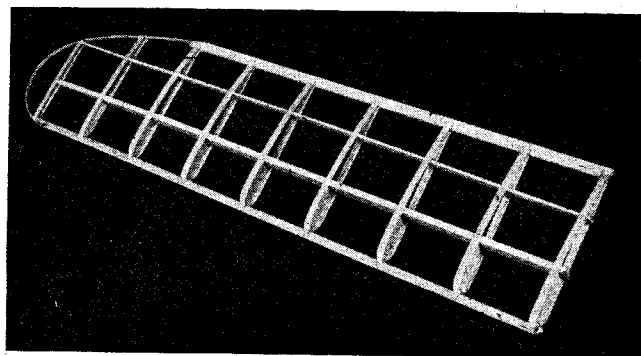
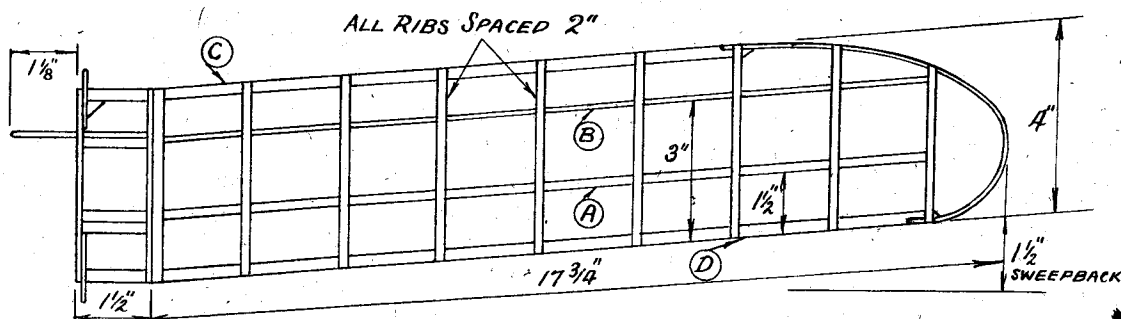
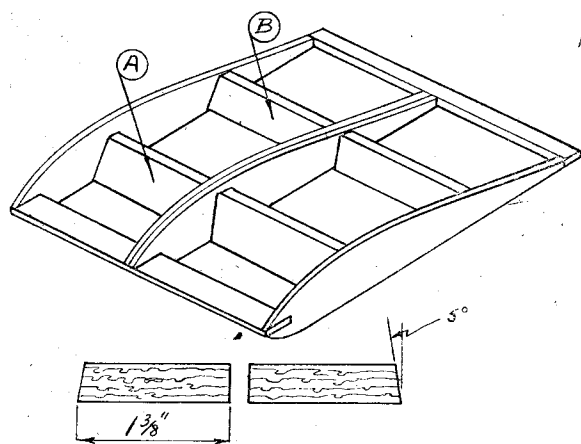

Fig. 18. Completed wing structure.
Fig. 17.
Fig. 24.
Fig. 17 shows a plan drawing of the wing, together with half of the centre section. It will be noted that the ribs are set parallel to the line of flight, and, therefore, are not at a right-angle to the spars and edges. This will give us the sweepback. The building system is one which I have described before, and was again chosen because of its
The picture, Fig. 18, shows one of the finished wing frameworks, and the first step in its manufacture will be the setting out of a full-sized drawing from the particulars given in Fig. 17. It will now be necessary to shape the main spar (A) from a piece of  $\frac{1}{8}$ -in. balsa, and the secondary spar (B) from  $\frac{1}{32}$ -in. balsa. Also, a fair number of strips of  $\frac{1}{32}$ -in. balsa,  $\frac{1}{8}$  in. width, will be cut. The leading and trailing edges are both cut from  $\frac{1}{16}$ -in. balsa, and are  $\frac{1}{4}$  in. wide.
The rib strips are now trimmed with a razor-blade, and sanded down to blend into the leading and trailing edges, when we should have a wing structure similar to that shown in Fig. 18. This shows the left-hand wing (looking from the front of the machine) while the drawing (Fig. 17) shows the right-hand wing. It will be noted that the wings are, there-
As will be more clearly seen from Fig. 24, the centre section consists of four solid balsa ribs joined together by  $\frac{1}{8}$ -in. balsa spars (A) and (B). The smaller drawing shows that these spars really consist of four pieces, each spar being cut into halves. Furthermore, the outer ends of the spars are cut at an angle of 5 deg. As a start, we may cut the four pieces of balsa to the shape shown; also, four solid ribs of  $\frac{1}{16}$ -in. balsa, which should conform to the outline of the rib shown in Fig. 20. Now, pin pieces (A) and (B) to the building board, upon which a drawing of the centre section has been made. The outer rib is now cemented to the ends of the spars, thus standing at 5 deg. from the vertical. The two inner ribs must be *lightly* cemented together at the nose and tail, and the pair cemented to the inner, vertical ends of (A) and (B). A repetition of the process completes the other half of the section. Cement in the leading edge ( $\frac{1}{4}$  in.  $\times$   $\frac{1}{16}$  in. and butt-glue the trailing edge (of similar balsa) to the ends of the ribs. Small corner blocks will be seen in Figs. 17 and 24, and the addition of these completes the centre section.
A glance at Figs. 17 and 24 will disclose the small bamboo pegs which are cemented to the inner ribs, so that they protrude beyond the leading and trailing edges of the centre section. The photograph is self-explanatory, but it should be noted that the pegs should tilt slightly upwards. This